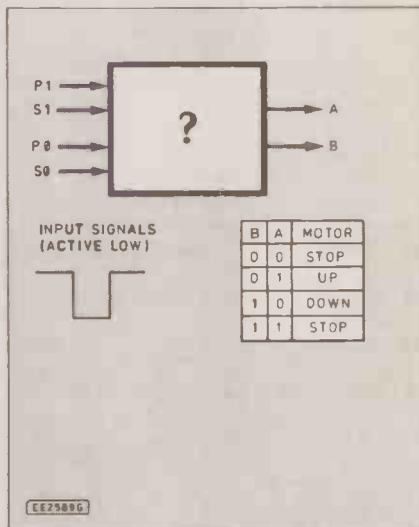

Fig. 7.7. Starting to design the logic for a two-floor model.
**T** Quite. Let's label them as in Fig. 7.7, and consider what input values we want to give output A a value of 1.